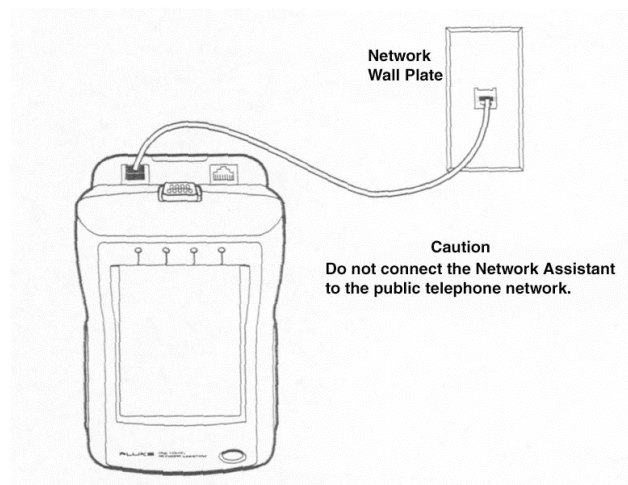

Figure 3
2. Connect the other end of the cable to the network jack that you are going to be testing (See fig. 3). *****Do Not connect the Fluke to a telephone jack*** Damage to the Fluke can occur.**